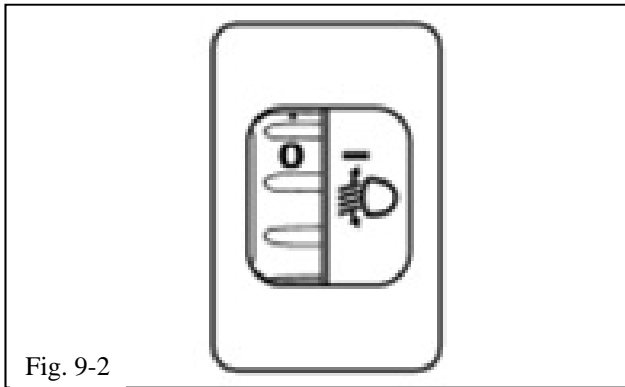

Fig. 9-2
- (5) If equipped, set the headlight leveling switch dial to 0 (Fig. 9-2).
- (6) Measure the height to the center mark on the headlight lens. This is your H Line height.
- (7) Mark this height on the wall in front of the vehicle (ex: use masking tape).